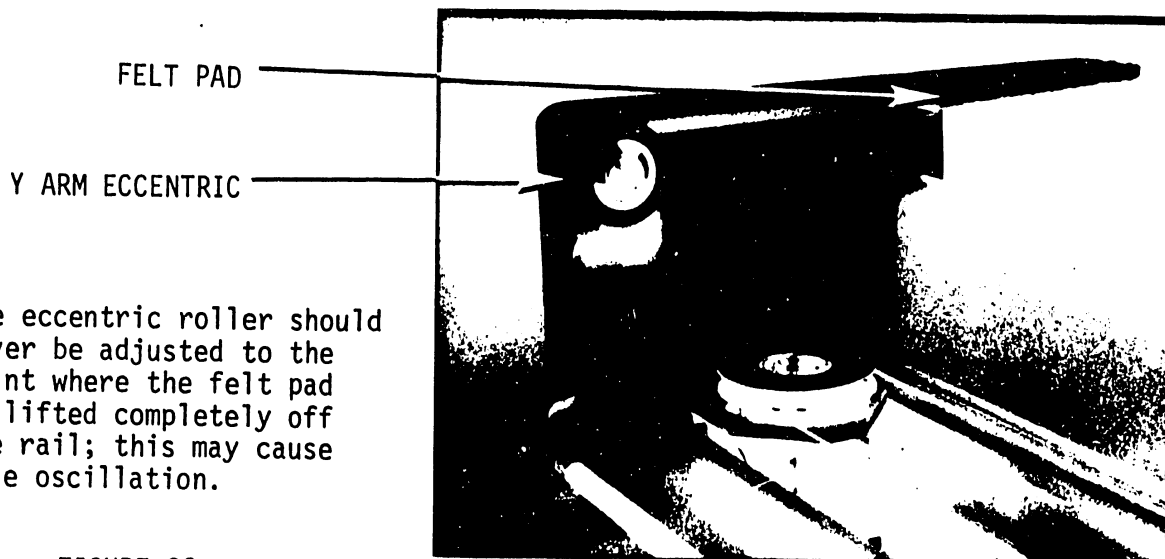

FIGURE 22
5.19 Y ARM ECCENTRIC (See Figure 22)